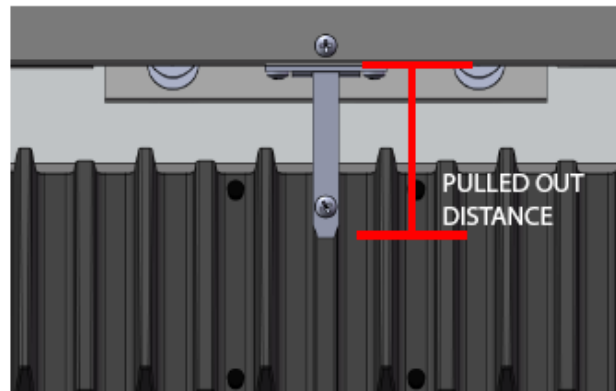

Figure 14 - Venting Termination Chart
- 🔥 Vent restrictor setting in Figure 14 - Venting Termination Chart must be followed.
- 🔥 The termination must fall within the chart in Figure 14 - Venting Termination Chart.
- 🔥 The termination must fall within the chart shown in Figure 14 - Venting Termination Chart
- 🔥 The termination must fall within the area shown in Figure 14 - Venting Termination Chart